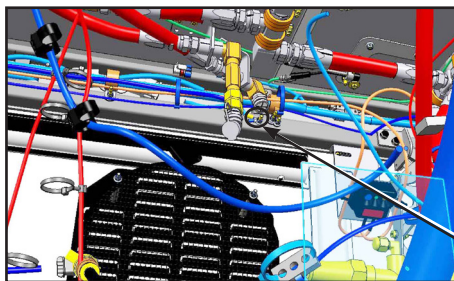

Figure 22 - harness 64 routing
- 1.28. Connect one end of wire 64-1820(10 BK) to the vehicle structure threaded stud. See Figure 22 and 23.